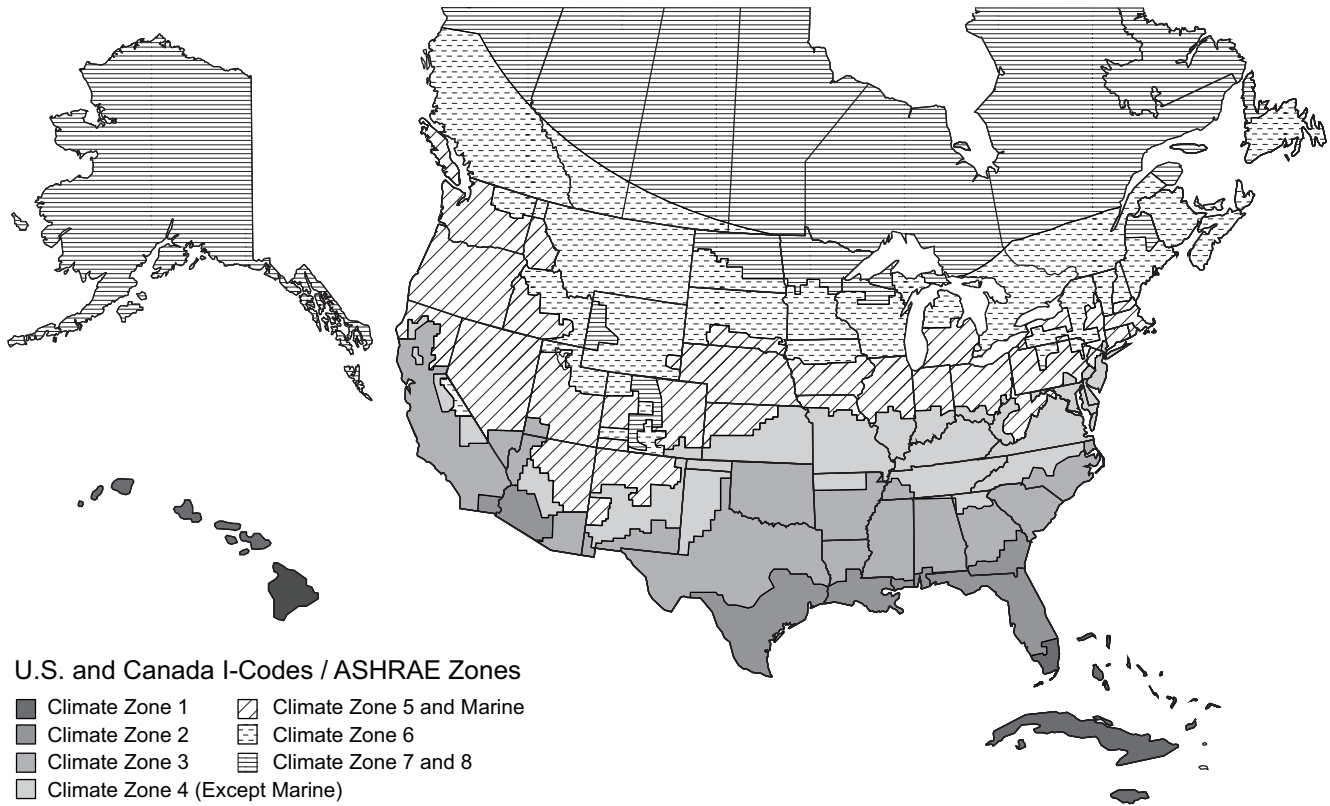

Fig. 80 — U.S. and Canada Climate Zones
- a. See Fig. 80 for map of U.S. and Canada climate zones.